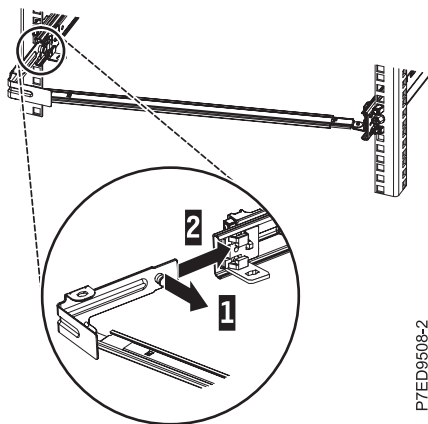

Figure 14. Extending the pin, and installing the bracket into the slide rail
3. To attach the other side of the support arm to the backside of the slide rail, pull the pin out (1), and then slide the bracket (B) into the left slide rail (2), as shown in Figure 14.